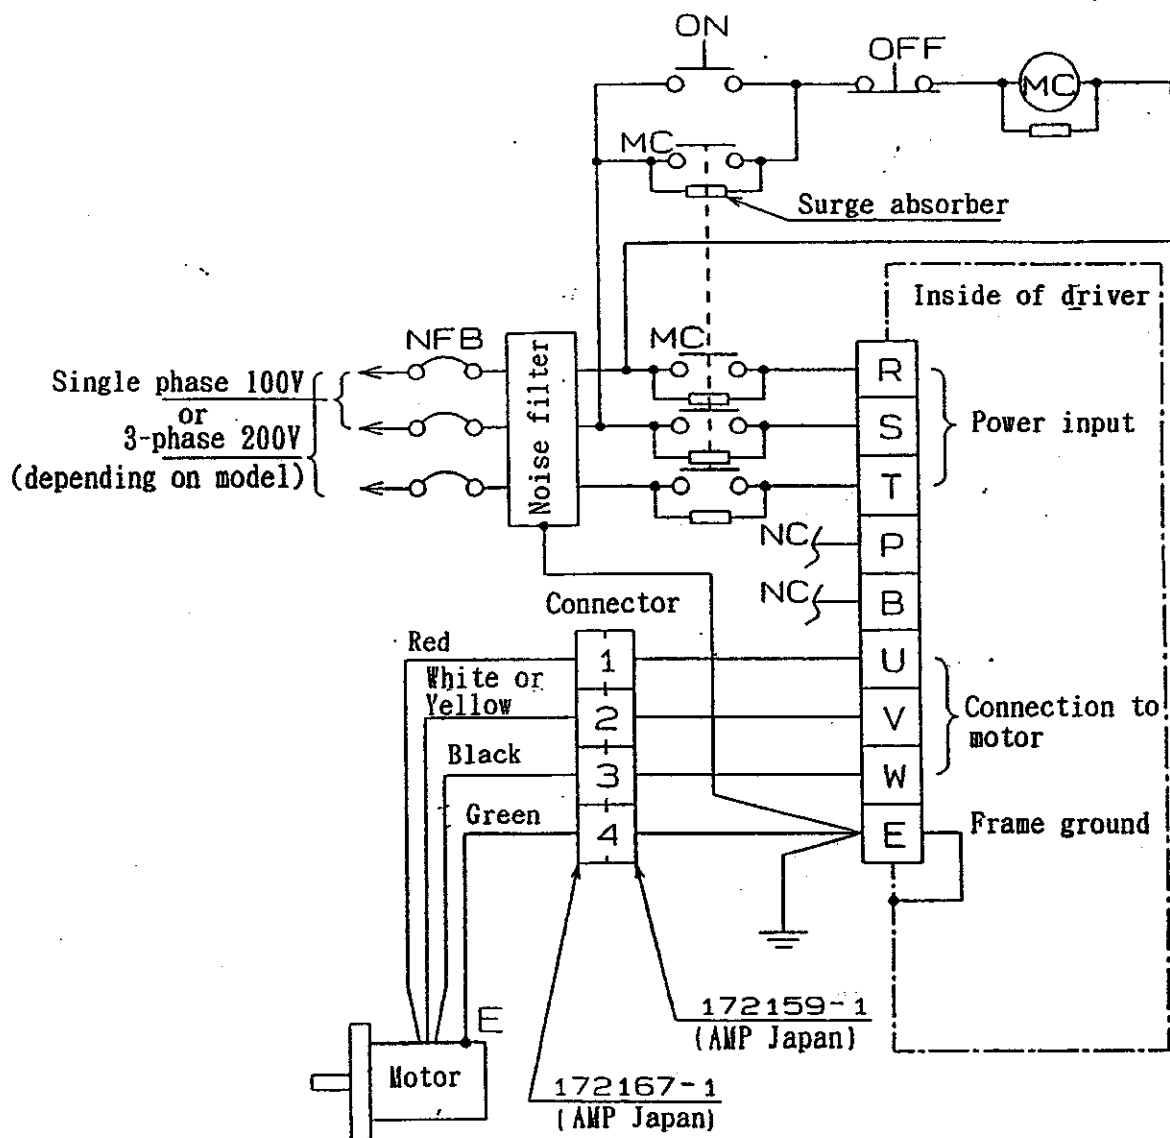

Fig. 1. Wiring example to the terminal board
- (1) Please make wiring per Fig. 1, "Wiring example to the terminal board".
- (2) Please refer to the list of recommended wiring-related equipment in section 5-2.
- (3) Please avoid a reverse connection between the main power input terminals (R, S, T) and the motor output terminals (U, V, W).
- (4) Please avoid grounding the output terminals (U, V, W) of the motor, or shorting them each other.
- (5) Please do not connect anything to the terminals, P and B. Also do not touch these terminals since a high voltage is applied.